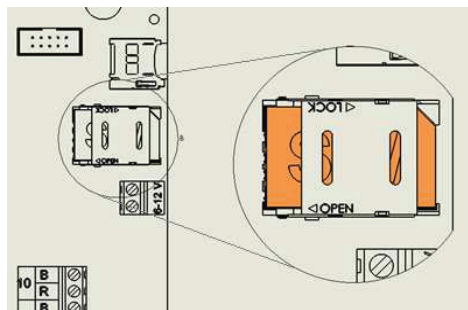

Figure 11: Correctly Inserted SIM Card
4. Slide the SIM card case cover to the side to open it, as indicated by the arrow labeled OPEN (see Figure 11).
7. Hold the SIM card case cover down while you slide the cover to the side, as indicated by the arrow labeled LOCK (Figure 11).